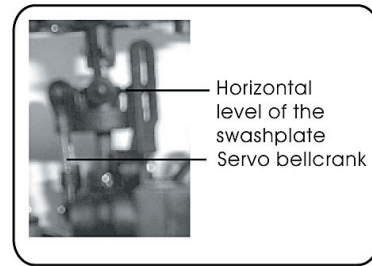

Fig. 3
2. Swashplate adjustment. If the swashplate is not in a horizontal level, adjust via the following two steps: servo and servo bellcrank adjustment. Re-connect the battery cable to the motor again and await the servo reposition. After the reposition is ready, adjust the angle between the servo bellcrank and servo linkage rod at 90 degrees (Fig. 3). Servo linkage rod adjustment. Adjust the servo linkage rod to parallel to swashplate bottom level.